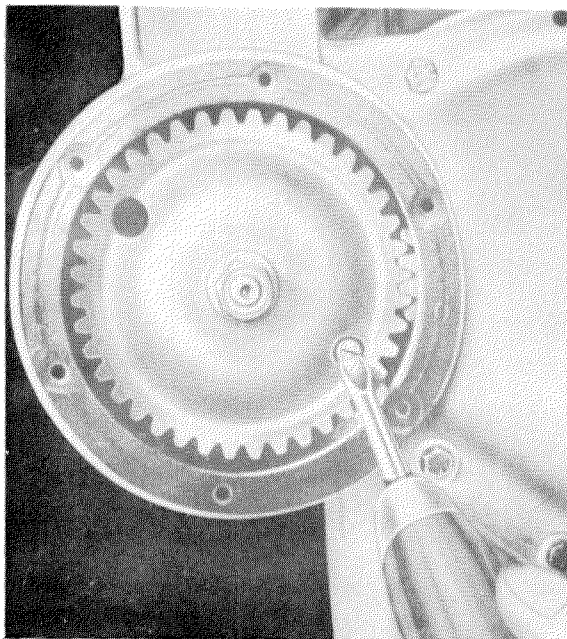

Figure 01-15/1
8. On engines without injection timing device, unscrew the two fillister head screws (Figure 01-15/1) and on engines with injection timing device, the two hexagon screws (1) (Figure 01-15/2) of the timing housing cover.